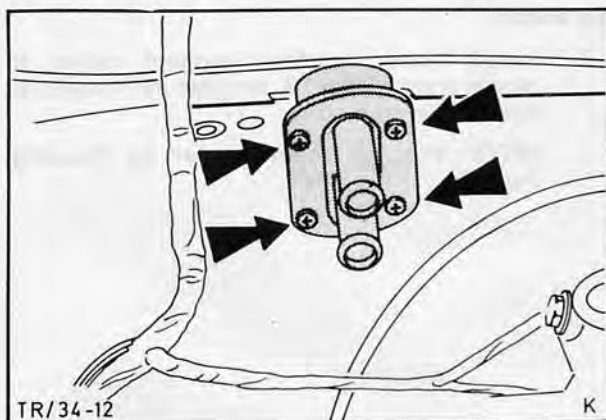

Fig. 13. Remove cover plate and gasket from bulkhead
3. Remove cover plate and gasket from bulkhead (4 screws), Fig. 13.